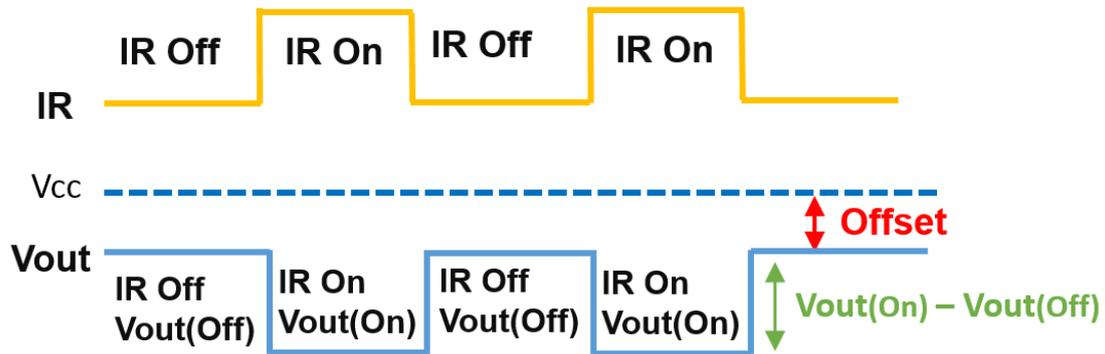
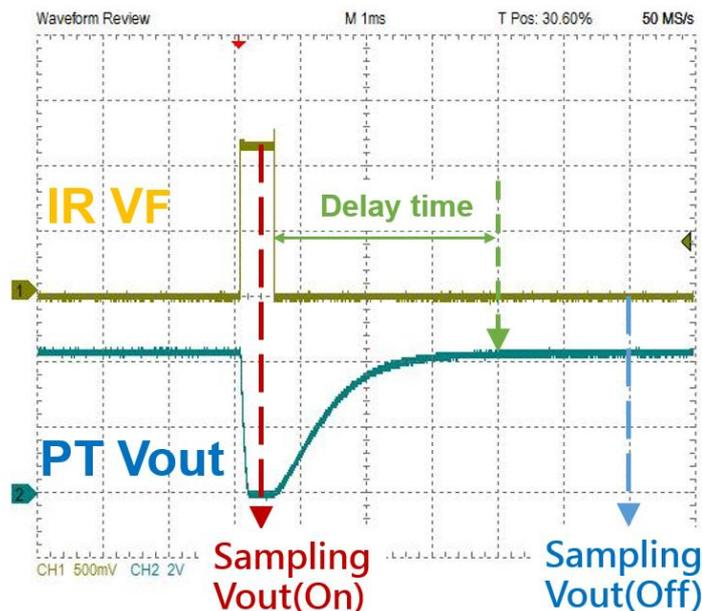
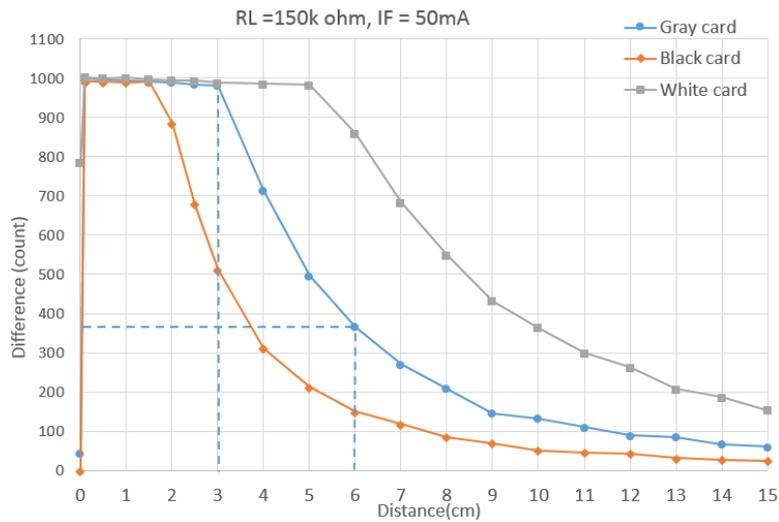

Figure 4. Ways to improve ambient light interference
Figure 5. PT output voltage waveform detection
Figure 7. Effects of different color DUTs on ADC readings
If the direct current (DC) detection method is used, it is easy to cause misjudgment when the ITR is illuminated by ambient light. The reason is that the PT end cannot distinguish whether the received irradiance is from ambient light or whether the IR is reflected by the object. The improvement method is shown in Figure 4. Change the IR transmission mode from DC to Pulse, and then the PT needs to detect the voltage values $V_{out}(\text{Off})$ and $V_{out}(\text{On})$ at each IR Off and IR On respectively. At this time, $V_{out}(\text{Off})$ represents the offset value (Offset) caused by ambient light, and $V_{out}(\text{On})$ represents the ambient light plus the voltage value at the time of IR emission, so between $V_{out}(\text{On})$ and $V_{out}(\text{Off})$ The voltage difference is the voltage value caused by pure IR emission. In addition to reducing the interference of ambient light, this method also uses Pulse to light up for a short time, so it can use a stronger current drive to detect longer distances.
Figure 5 is an example of the actual output waveform of the PT. It can be found that when the IR switches from On to Off, the PT will have a delay time. Therefore, when sampling Vout (Off), you need to confirm that the PT output voltage has stabilized to avoid subsequent calculation of object detection Misjudgment when measuring variation.
Refer to the method in Figure 4 to control the GPIO and the waveform in Figure 5 to set the ADC sampling time. The following uses Everlight ITR20001 / T24 (Bin K) as an example. The IR on time is 350us, and Vout (On) is sampled at 300us. The IR Off time length is 50ms, and Vout (Off) is sampled at 6ms. Vcc = 5V, R limit = 82 ohm (IF = 50mA), RL = 150k ohm. It is recommended that the threshold is set to about 1/3 of the ADC maximum value. This 1/3 value is reserved for the use of the Offset for light interference. The larger the value is, the stronger the light interference resistance is, but the object detection range will be relatively reduced. Figure 7 shows the comparison of different detected objects after Vout is set in the above manner (the Y-axis is the ADC reading of the difference between Vout (Off) and Vout (On)). It can be seen from the figure that the lighter the color of the reflective object, the higher the reflection amount, and the larger the range of the detectable distance. Generally, a gray card is used as a design reference. This picture is taken as an example. The judgeable range of the gray card is about It is 0.1 ~ 6cm, black card is 0.1 ~ 3.5cm, white card is 0.1 ~ 9.5cm.